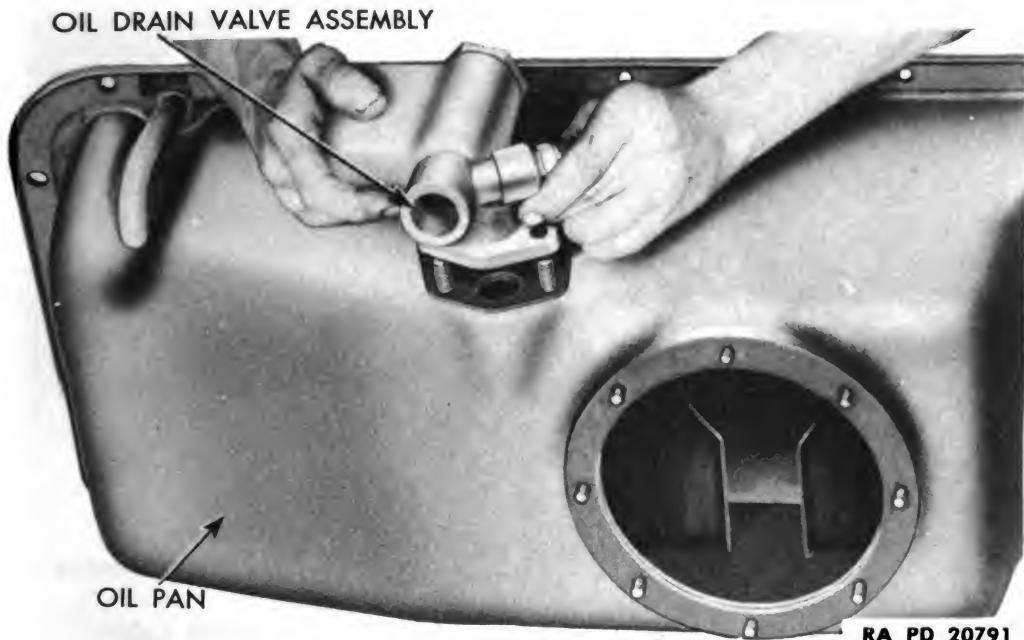
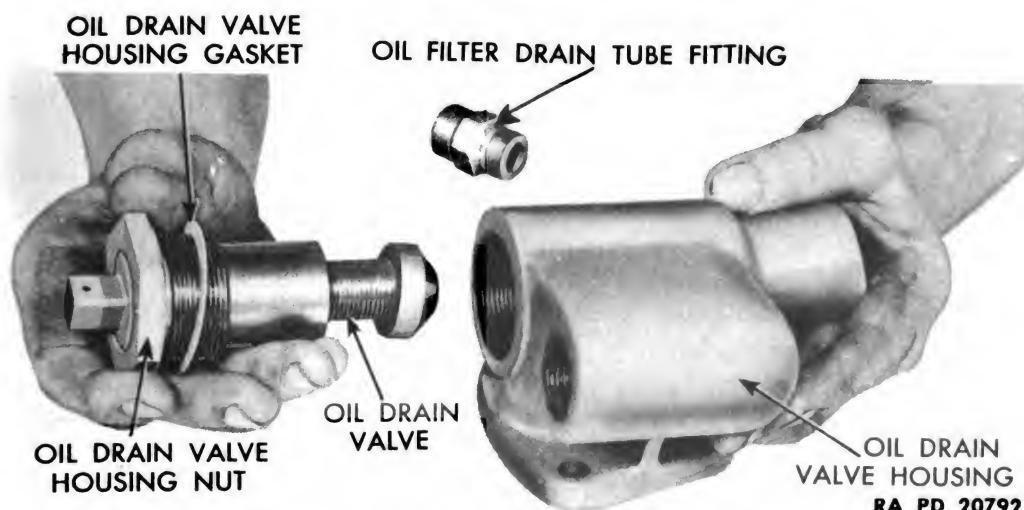
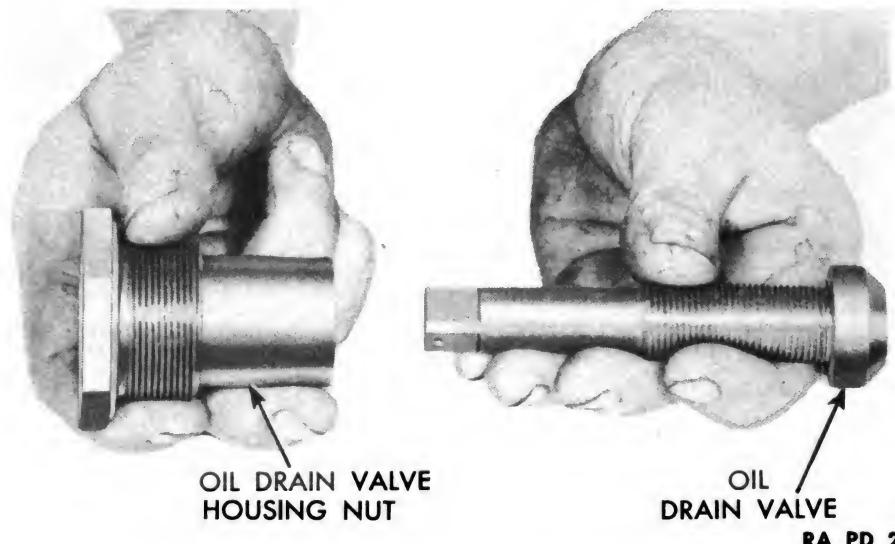

Figure 59 — Removing Oil Drain Valve Assembly
Figure 60 — Removing Oil Drain Valve From Oil Drain Valve Housing
Figure 61 — Removing Oil Drain Valve Housing Nut From Valve
a. **Disassemble.** Remove eight nuts and lock washers, and lift off hand-hole cover (fig. 57). Remove eight nuts and lock washers, and lift off front scavenger oil pump screen (fig. 58). Use same procedure to remove rear screen. Remove four nuts and lock washers, and lift off oil drain valve assembly (fig. 59). Remove oil drain valve from housing (fig. 60). Remove oil drain valve from housing nut (fig. 61).
(1) OIL DRAIN VALVE. Assemble valve housing nut on drain valve (fig. 61). Using a new copper-asbestos gasket, screw the housing nut with valve into the oil drain valve housing (fig. 60) and tighten it.
(2) OIL PAN. Shellac a new gasket on the oil pan drain valve assembly. Mount the oil drain valve assembly on the four studs on the side of the oil pan with four lock washers and nuts (fig. 59). Tighten all four nuts evenly. Shellac a new gasket on oil pan hand-hole cover. Install cover on oil pan with eight lock washers and nuts (fig. 57). Tighten nuts evenly. Assemble the two scavenger oil pump screens to their studs inside the oil pan with 16 lock washers and nuts, and tighten (fig. 58).